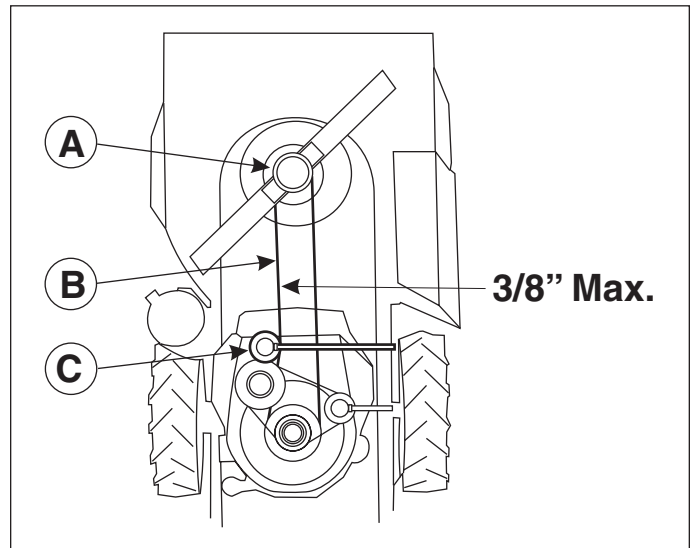

Figure 20 - Mower Belt Deflection
Belt deflection should be approximately 3/8" halfway between the belt clutch (A, Figure 20) pulley and the idler pulley (C).